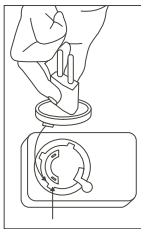

FIG.9
2. Insert the adapter onto the electrical posts (Fig.9)